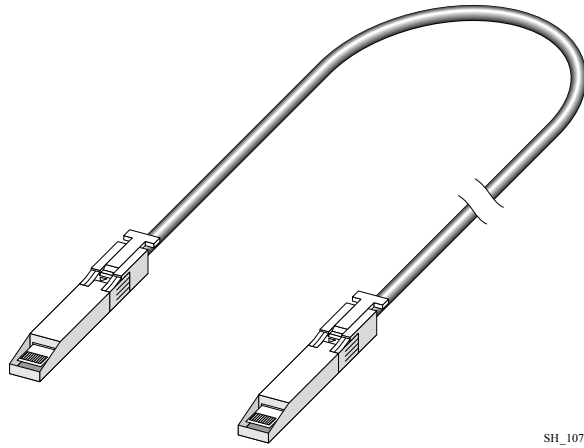

Figure 10: SFP+ Direct-Attach Cable: Type A
1. If the cable connector is similar to cable A in Figure 10 on page 83, push the release latch toward the port on the switch.